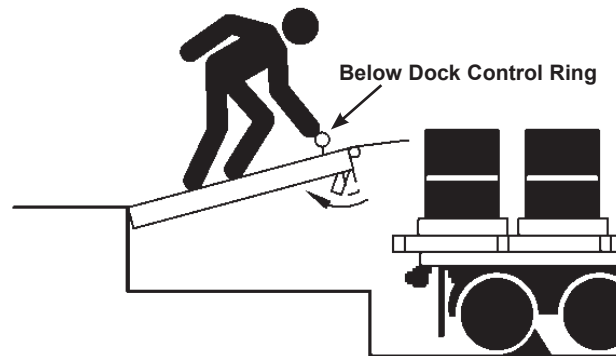

Figure 18
- c. Walk out on the leveler, pull and hold the below dock control ring (located in the recess at the front of the platform). This will cause the safety legs to fold allowing the leveler to lower to the full below dock position. See Figure 18.
6. Walk out on the leveler, pull and hold the below dock control ring (located in the recess at the front of the platform). This will cause the lip to extend away from the lip keepers and the safety legs to fold allowing the leveler to lower to the full below dock position. See Figure 18.